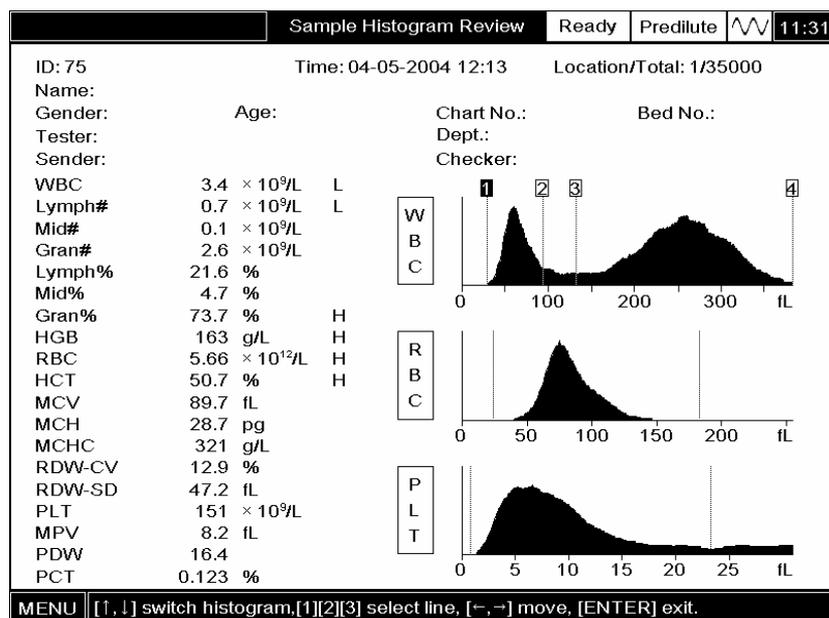

Figure7-23 WBC histogram with adjustable discriminators
1. Press [ENTER] and the discriminator will become adjustable. See Figure7-23;